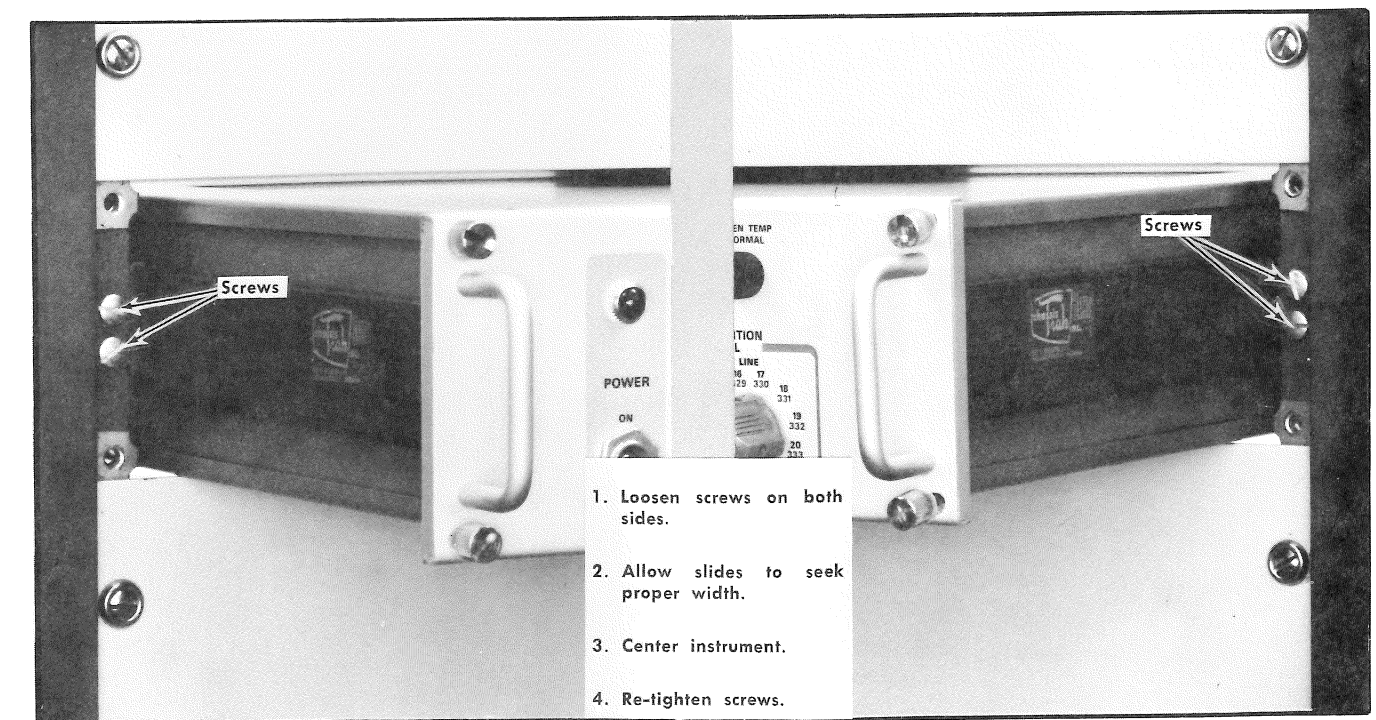

Fig. 9-8. Adjusting the slide-out tracks for smooth sliding action.
2. Adjust the slide-out tracks for proper spacing as shown in Fig. 9-8.